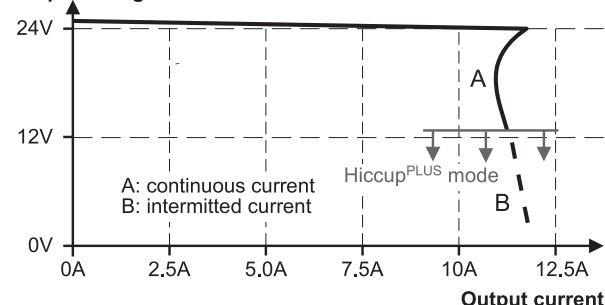

Figure 7
- The device is equipped with the HiccupPLUS overload characteristic. At heavy overloads (when output voltage falls below 13V), the device delivers continuous output current for 2.8s. After this, the output is switched off for 7s before a new start attempt with 1.2s is automatically performed. This cycle is repeated as long as the overload exists. If the overload has been cleared, the device will operate normally (see Fig. 7)